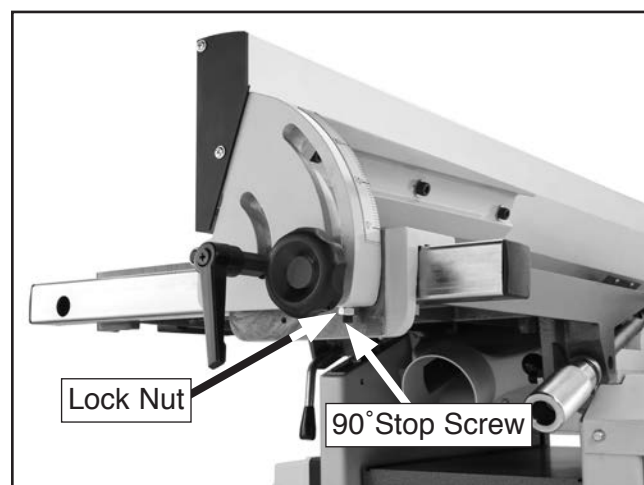

Figure 84. Adjusting fence to 90°.
1. Loosen the lock nut on the 90° fence stop screw shown in **Figure 84**, and loosen the fence tilt knob.